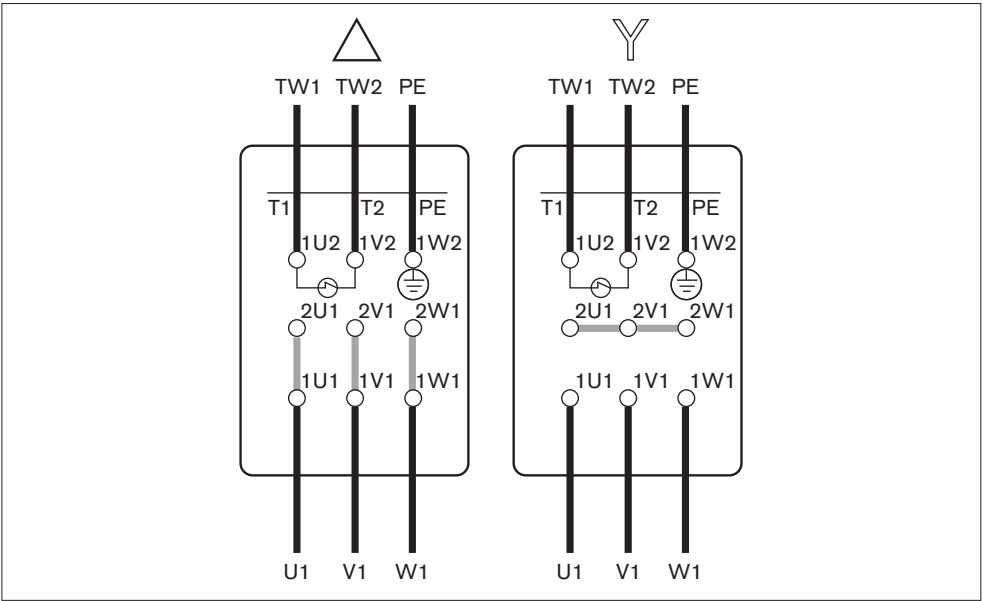

Fig. 25: Delta/ye connection diagrams
- Connect the motor in either a wye or a delta configuration in accordance with the connection diagrams, see Fig. 25 on page 47.
- Switch any two wires (U1, V1 or W1, see Fig. 25 on Page 47) to change the motor's rotational direction.